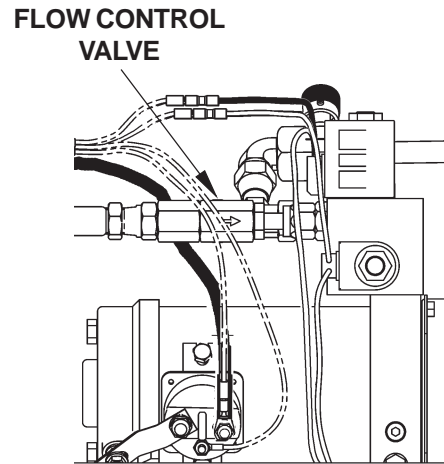

FIG. 48-1
6. Check and clean Flow Control Valve (**FIG. 48-1**) in the high pressure hydraulic line connected to Pump.
7. Check if Flow Control Valve (**FIG. 48-1**) is pointing to the direction of restricted fluid flow (back toward pump). If required, remove Flow Control Valve and install it correctly (**FIG. 48-1**).